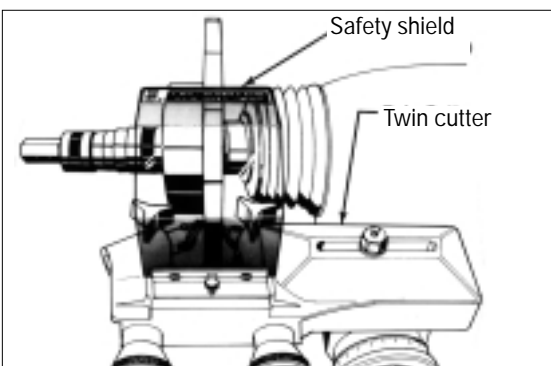

Figure 22 - Attach the safety shield
3. Install the safety shield as shown in figure 22. Review the cautions and dangers section and the general safety information at the beginning of this manual. The safety shield is easily screwed onto the twin cutter in the threaded mounting hole provided.